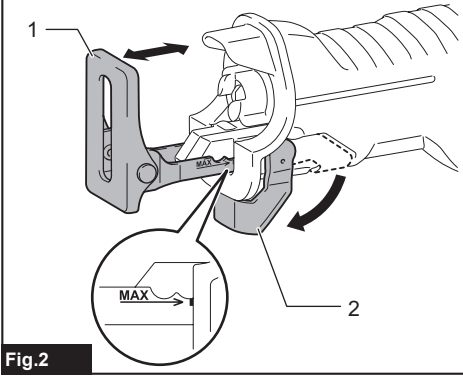

Fig.2
► Fig.2: 1. Shoe 2. Shoe adjusting lever